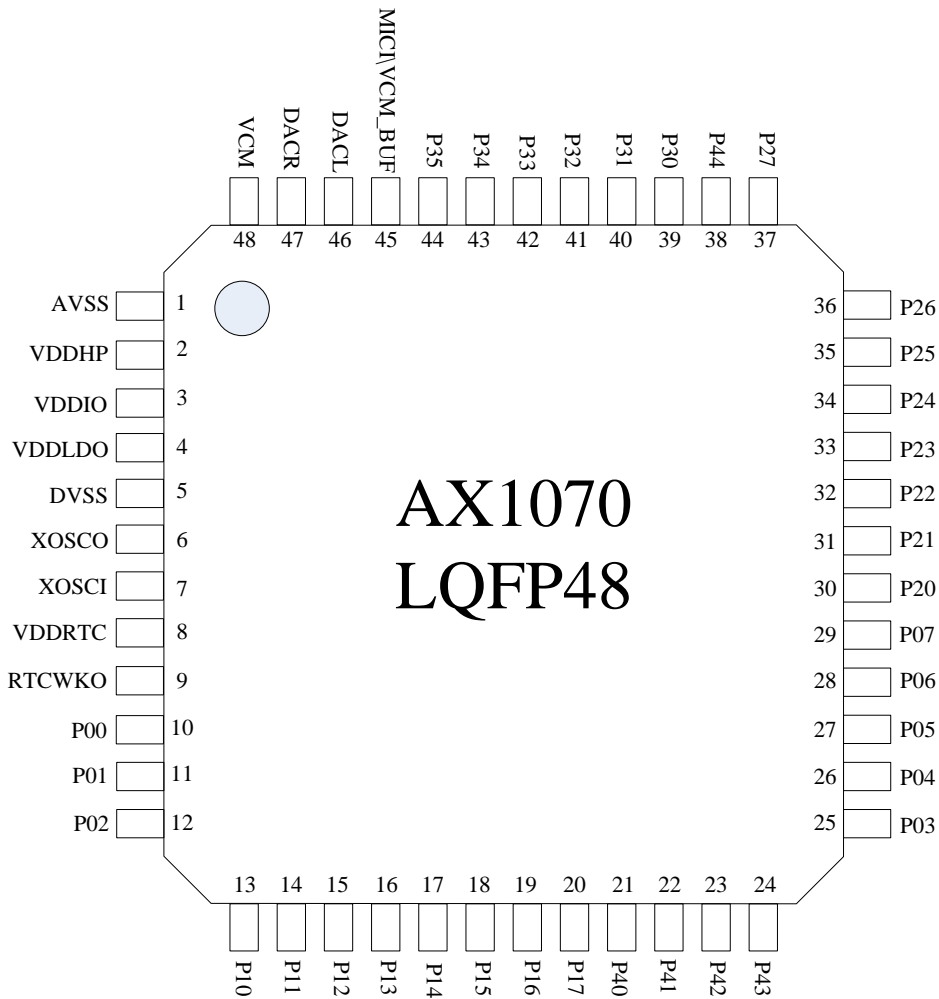

Figure 2-1 Pin assignment for AX1070 LQFP48
Figure 2-1 shows AX1070 LQFP48 Package.
*Figure 2-1* shows the pin assignments of AX1070 LQFP48 package. *Table 2-1* shows the pin descriptions of AX1070 LQFP48 package.